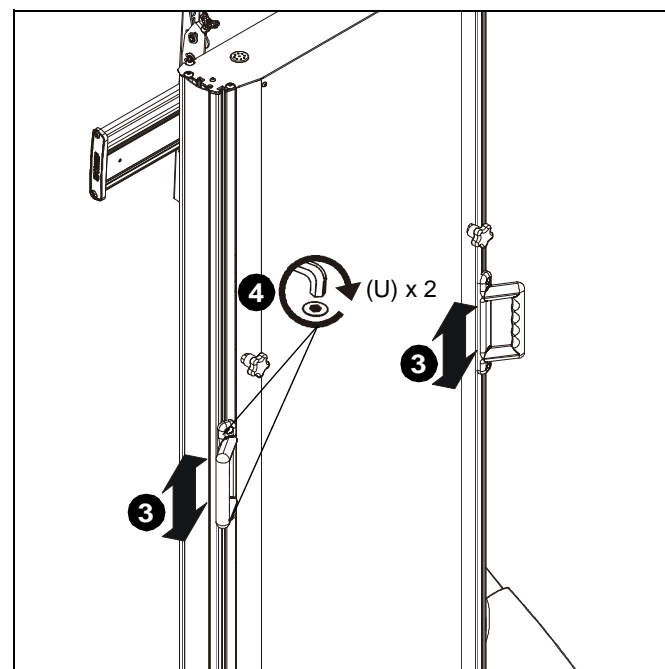

Figure 10
3. Adjust handles to desired height. (See Figure 10)
4. Tighten two screws on each handle to lock handles at desired positions. (See Figure 10)